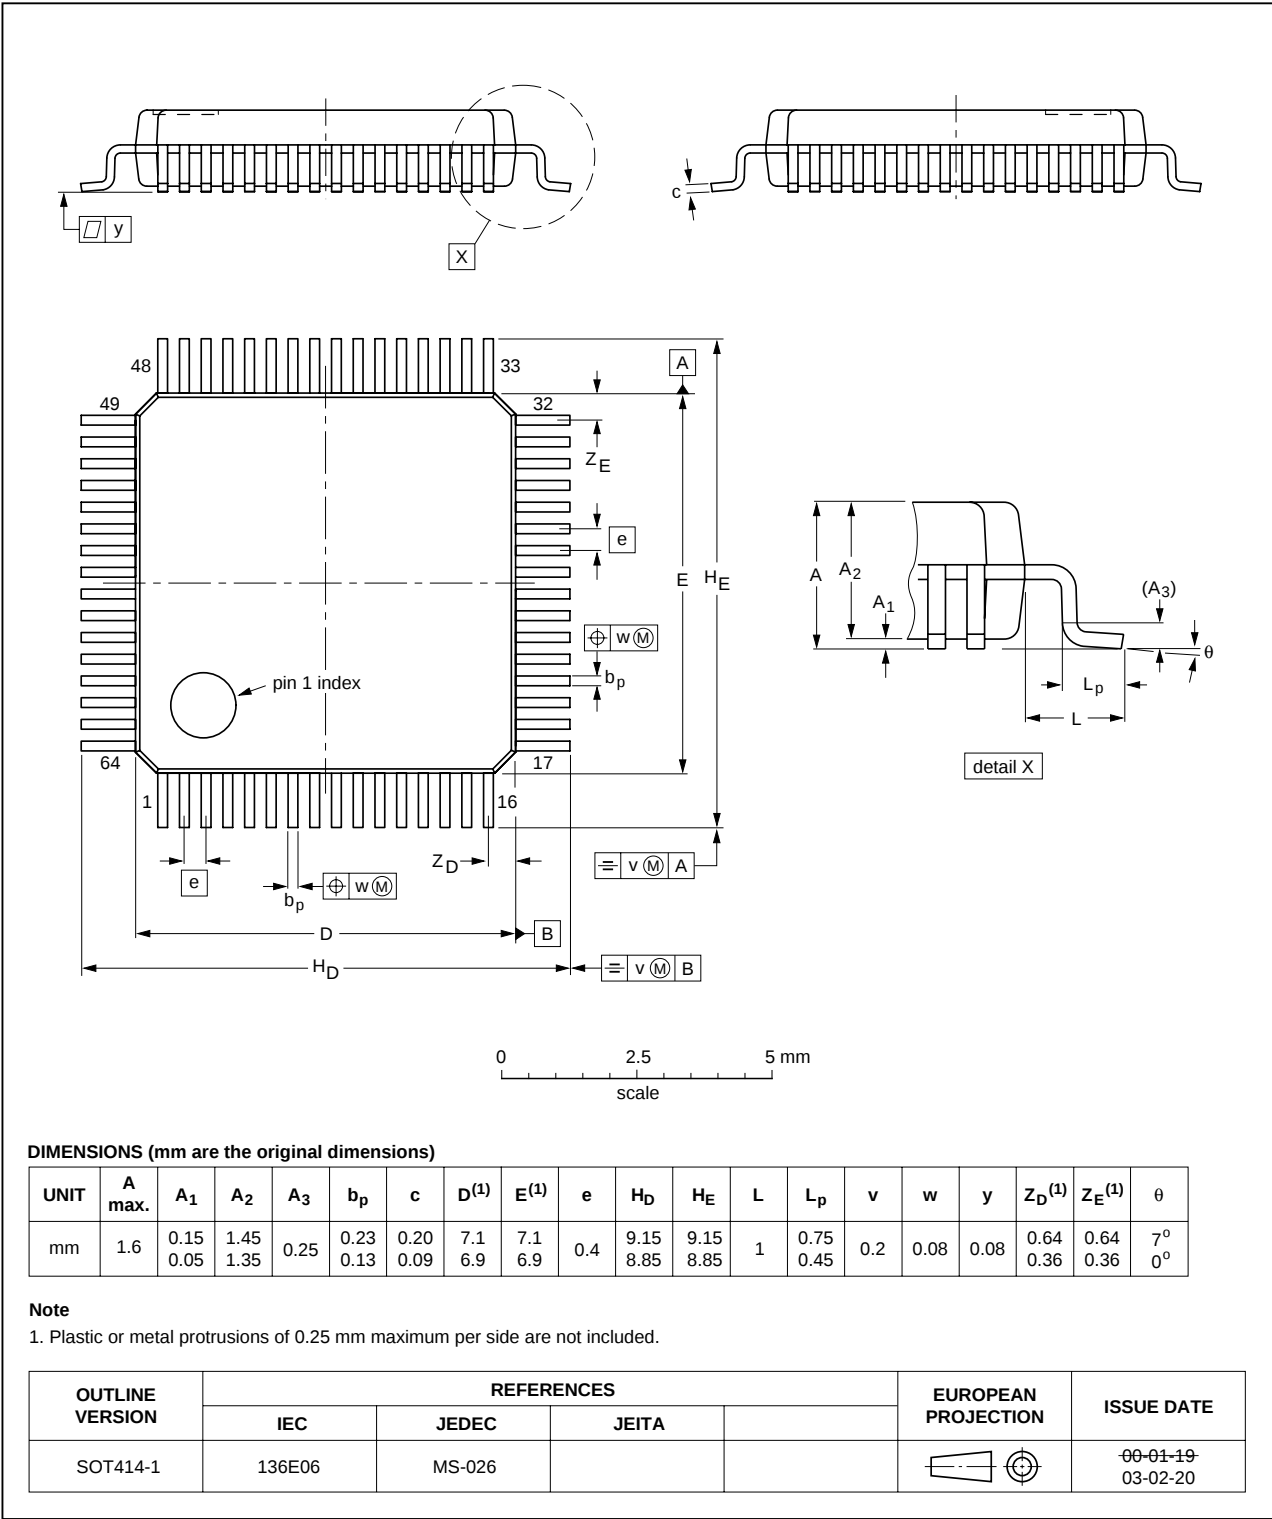

Fig 25. Package outline SOT414-1 (LQFP64)
• Section 1 “General description”, 3rd paragraph: added ‘LQFP64’ • Section 2 “Features”, 4th bullet: changed ‘baud rate’ to ‘data rate’ (2 places) • Table 1 “Ordering information”: added LQFP64 package offering • Figure 2 “Pin configuration for LQFP64” added • Table 2 “Pin description”: – added column for LQFP64 pinning – descriptions for CLKSEL, INTSEL, $\overline{\text{RXRDY}}$, $\overline{\text{TXRDY}}$ modified to indicate the package-type to which they apply • Table 10 “SC16C754B internal registers”: shading removed, replaced with reference to Table note 2 • Table 24 “Limiting values”: table note removed (statement shown in Section 17 “Disclaimers”) • Table 25 “Static characteristics”: – description following title changed from ‘$V_{CC} = 2.5 \text{ V}, 3.3 \text{ V} \pm 10 \% \text{ or } 5 \text{ V} \pm 10 \%$’ to ‘Tolerance of $V_{CC} \pm 10 \%$; unless otherwise specified.’ – Added ‘$V_{CC} =$’ to value limits column headings – Table note 5: changed ‘x_2’ to ‘XTAL2’ • Table 26 “Dynamic characteristics”: – symbol ‘t_{3w}’ changed to ‘f_{XTAL}’; added reference to (new) Table note 2 – under values for t_{20d}, t_{23d}, t_{25d}, t_{28d}: changed ‘RCLK cycles’ to ‘T_{RCLK}’; added reference to Table note 3; added unit ‘ns’ – symbol N: removed ‘RCLK cycle(s)’ from values (N is a number) – added (new) Table note 2 • Figure 25 “Package outline SOT414-1 (LQFP64)” added • Section 18 “Trademarks” added